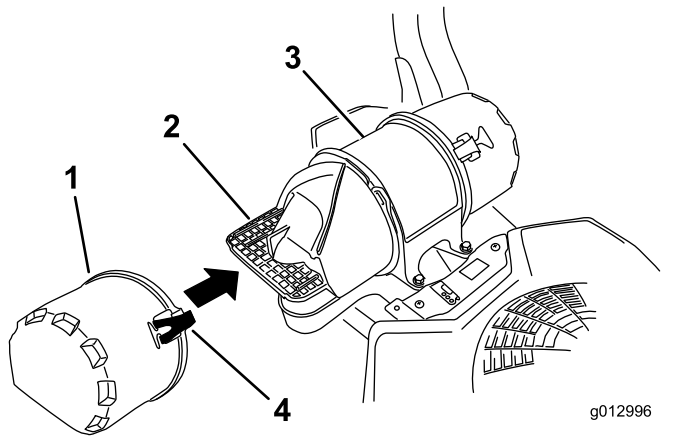

Figure 25
3. Release the latches on the air cleaner and pull the air-inlet cover off the air-cleaner body (Figure 25).
5. Install the air-inlet cover and secure it with the latches (Figure 25).
- Install the air-cleaner cover and secure the latches (Figure 25).